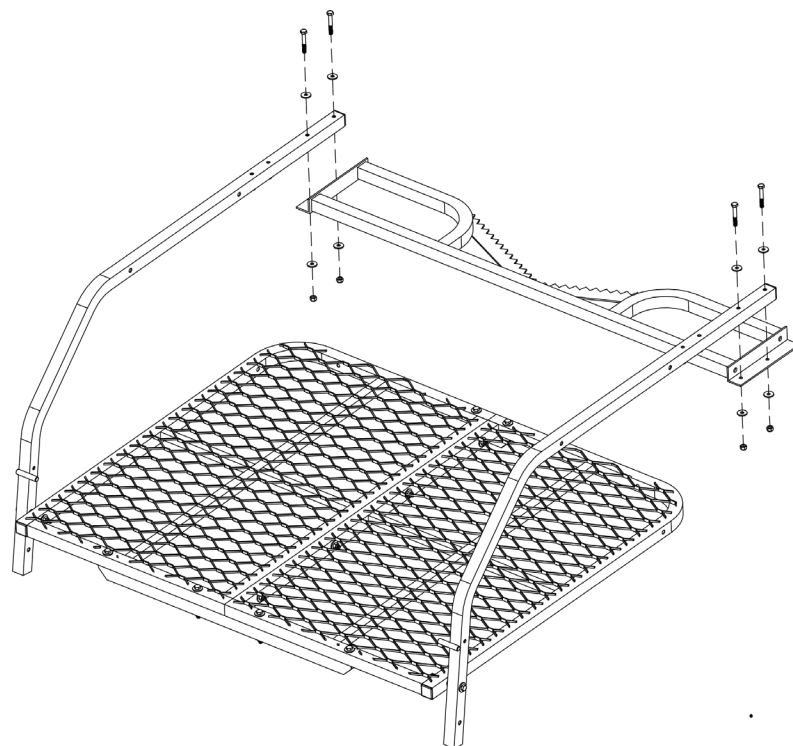

Figure 20
STEP 5: Install the tree blade assembly using four (4) $\frac{1}{4}$ x $1 \frac{3}{4}$ bolts, eight (8) washers and two (2) nuts as shown in Figure 20.